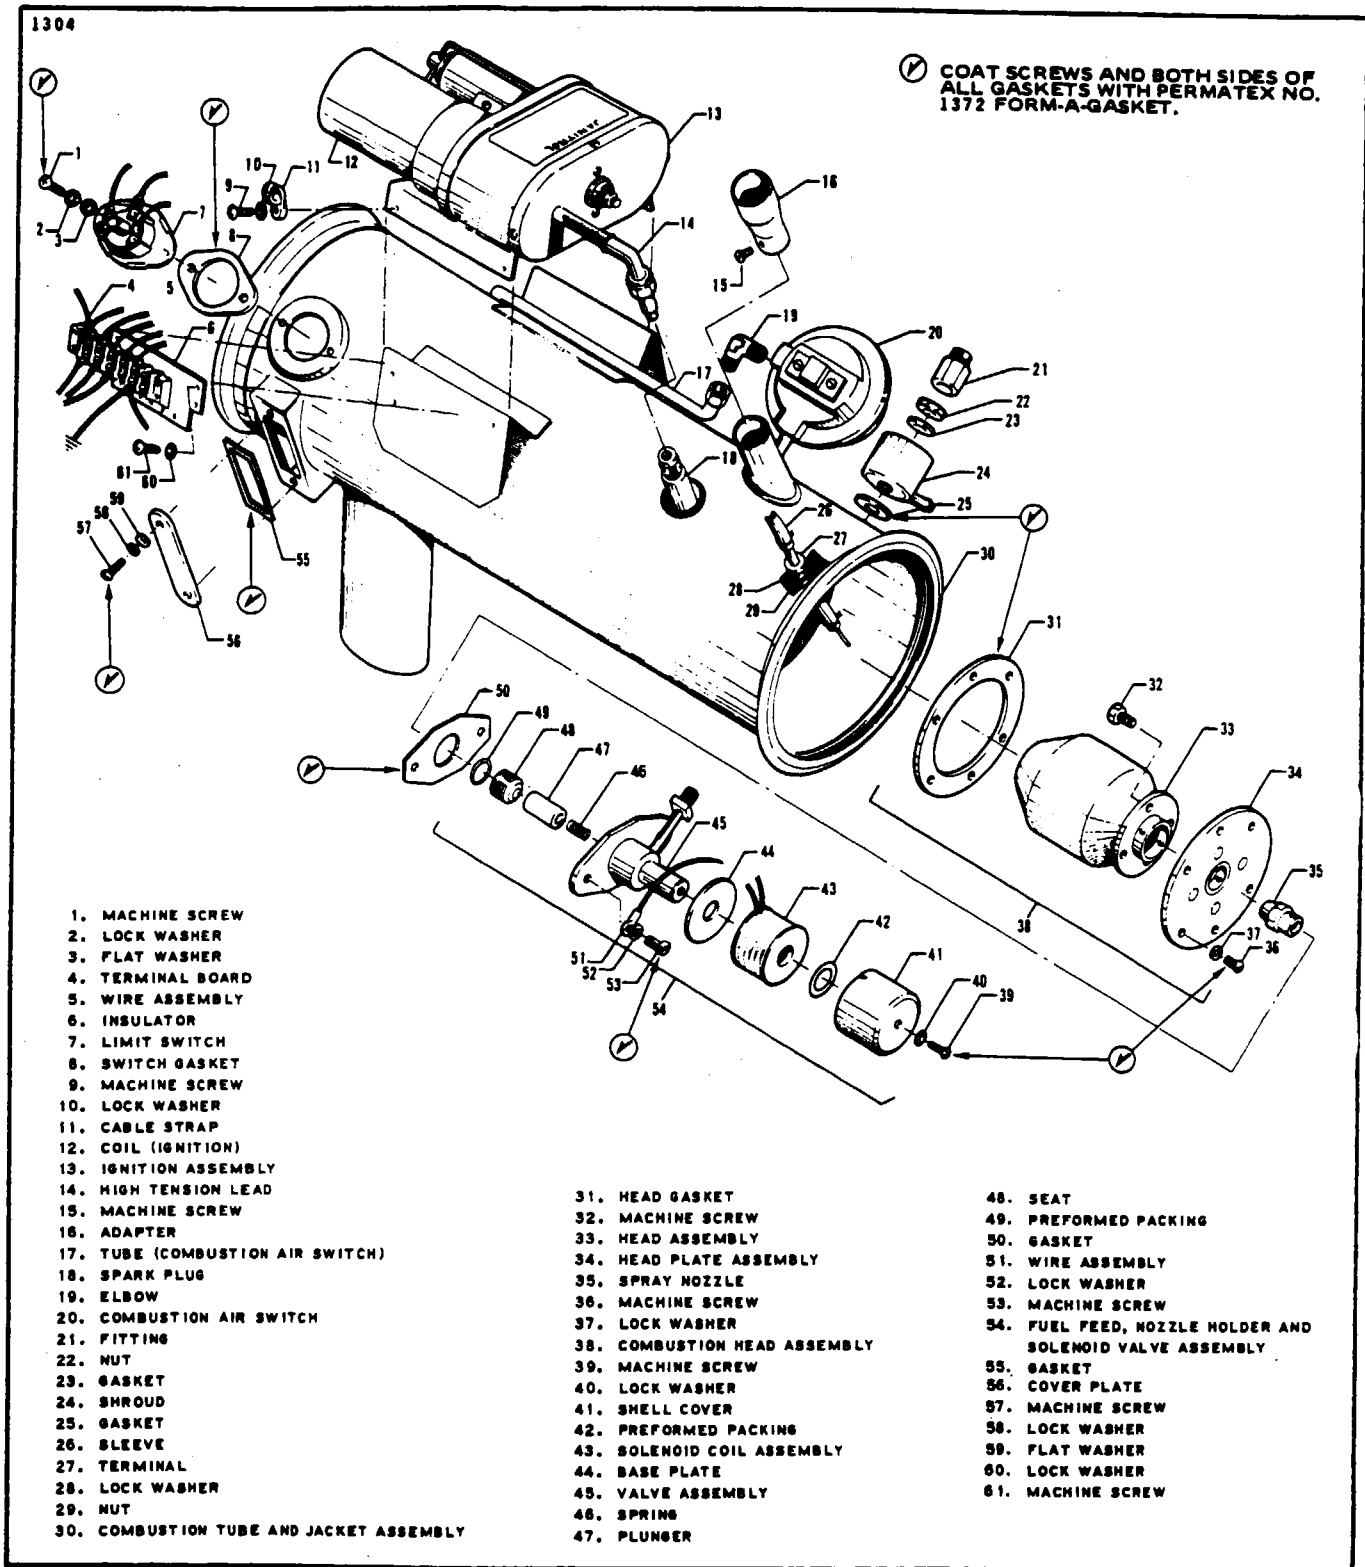
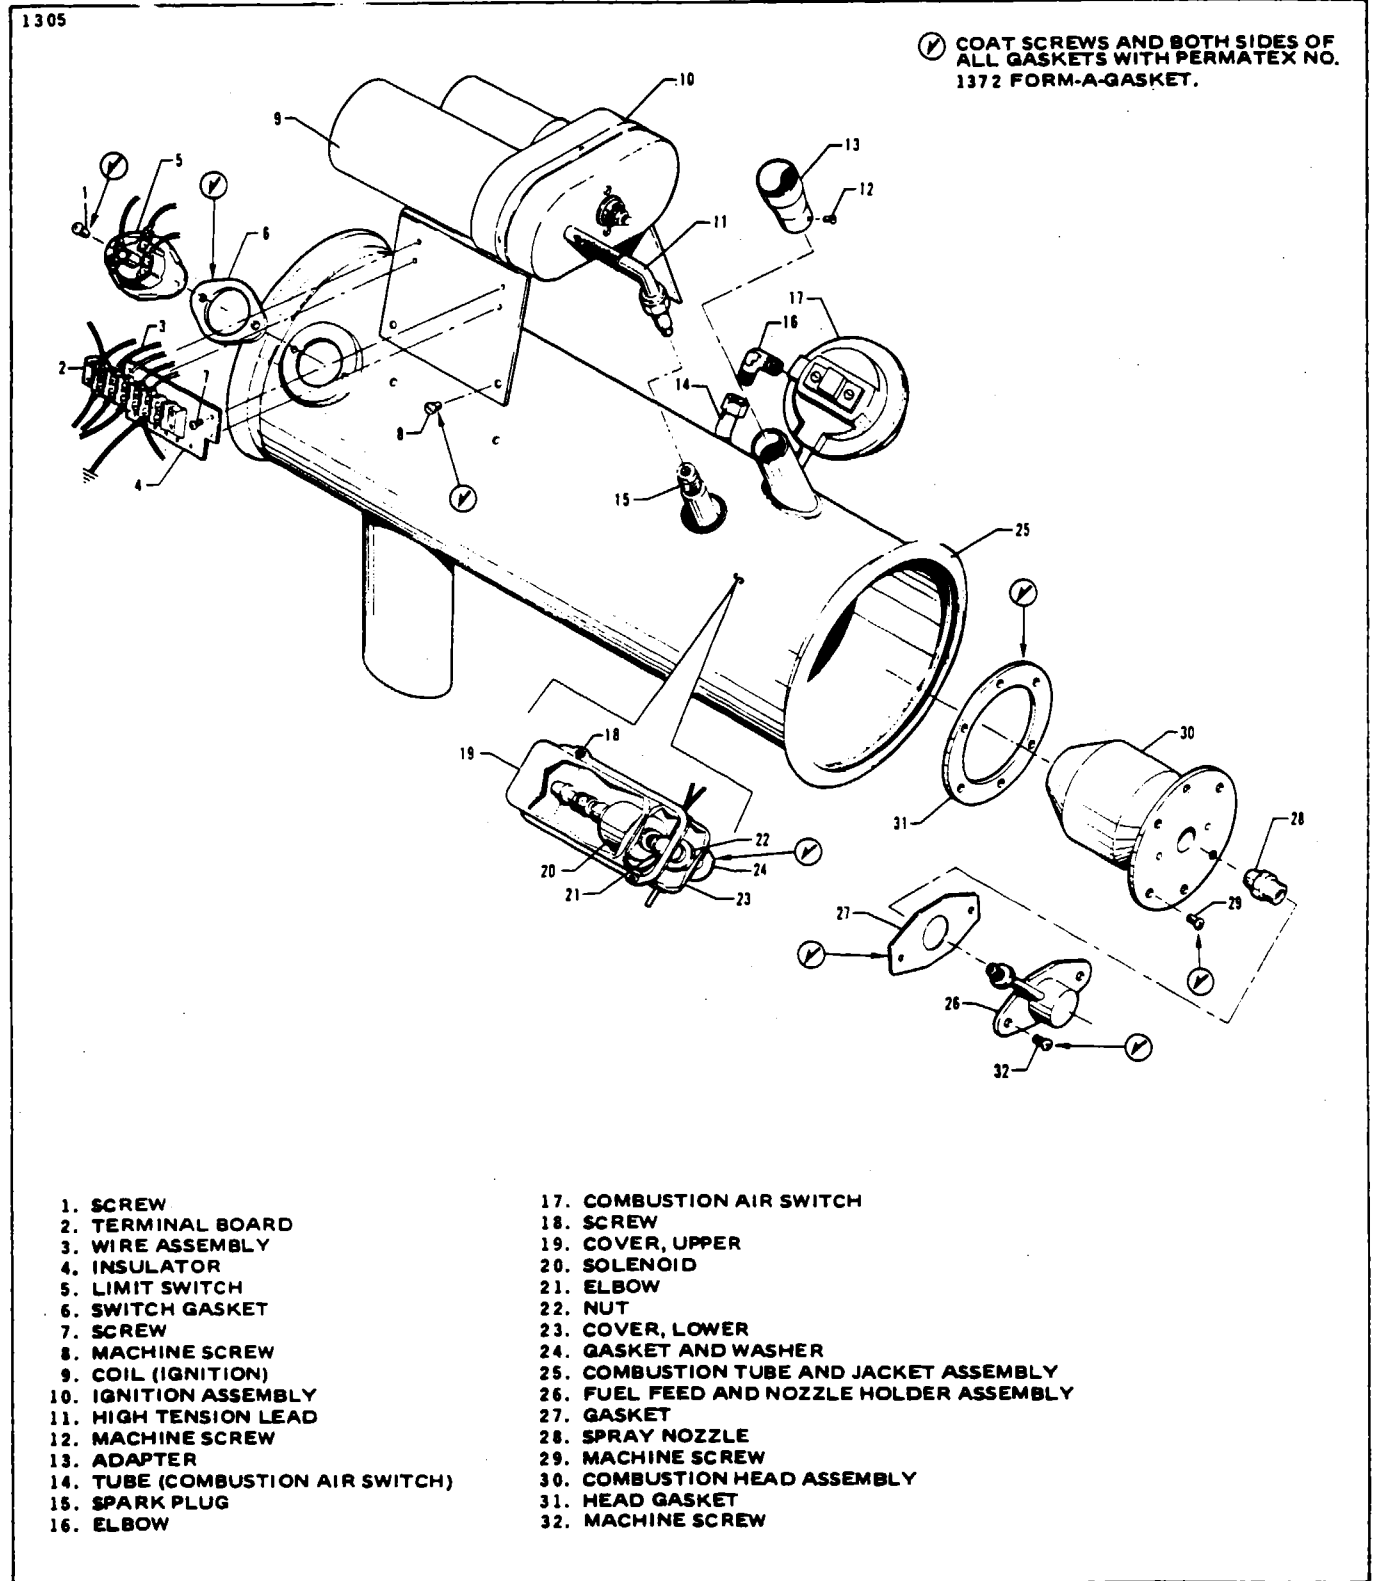

Figure 13-14. Heater Assembly (47D65) Exploded View
Figure 13-14a. Heater Assembly (47D65-1) Exploded View
13-47. LIMIT (OVERHEAT SAFETY) SWITCH. (Refer to Figure 13-14 or 13-14a.)
1. If the limit switch (item 7 in Figure 13-14 or item 5 in Figure 13-14a) is damaged or defective, disconnect the two electrical leads from the switch terminals. Be sure to mark the leads for proper reassembly. (The switch terminals are identified by numbers "1," "2," and "3.")
13-48. COMBUSTION AIR PRESSURE SWITCH. (Refer to Figure 13-14 or 13-14a.)**a. Removal.**
1. Disconnect electrical leads from the terminals of the combustion air pressure switch (item 20 in Figure 13-14 or item 17 in Figure 13-14a), being sure to mark them for proper reassembly. Disconnect the tube from the switch cap. Exercise caution not to exert excessive bending of the tube. (It is "tacked" to the combustion chamber inside the jacket.)
1. Install the combustion air pressure switch (item 20 in Figure 13-14 or item 17 in Figure 13-14a) by rotating it on the threaded fitting of the combustion air inlet tube and tighten it securely. Exercise caution not to over-torque the switch as this could change the setting.
13-51. DISASSEMBLY OF HEATER. (Refer to Figure 13-14 or 13-14a.)
a. Disassemble the 47D65 heater in the general sequence of the index numbers in Figure 13-14. Pay special attention to the following instructions:
12. Remove six screws (36) with lock washers (37) that attach the combustion head assembly (38) to the combustion tube and jacket assembly (30) and lift out of combustion tube. Do not disassemble the head plate (34) from the head (33) unless there is damage to one of the parts.
13. Remove the screw (39), lock washer (40), cover (41) and preformed packing (42). Then carefully slide the solenoid coil (43) off the valve assembly (45). It is not necessary to remove the base plate (44) unless it is warped.
b. Disassemble the 47D65-1 heater in the general sequence of the index numbers in Figure 13-14a. Special attention should be given to the following instructions:
g. On 47D65 heaters per Figure 13-14 inspect the fuel feed, nozzle holder and solenoid valve assembly (54) for damaged threads at the fuel line fitting, and for a crimped or cracked fuel line or distorted housing. Check the solenoid for continuity by reading the resistance across the two leads with an ohmmeter. A reading of 75 to 85 ohms at room temperature is normal. If reading is not between these limits, or if the solenoid windings show signs of physical damage or overheating, replace it. Replace preformed packing (42 and 49).
On 47D65-1 heaters per Figure 13-14a inspect the fuel feed, nozzle holder assembly (26) for damaged threads at the fuel line fitting, and for a crimped or cracked fuel line or distorted housing. Check the fuel solenoid for continuity by reading the resistance across the two leads with an ohmmeter. A reading of 100 to 125 ohms at room temperature is normal. If the reading is not between these limits, replace the solenoid.